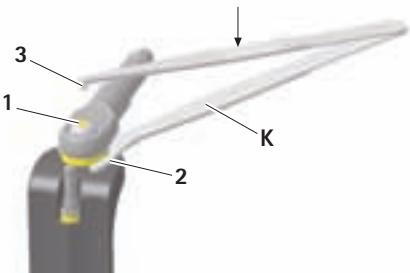

Fig. 5
- ▶ Push forceps K with the jaw side 2 under the coupling and use the forceps bolt 3 to push them onto the pins 1 of the valve D, see Fig. 5.